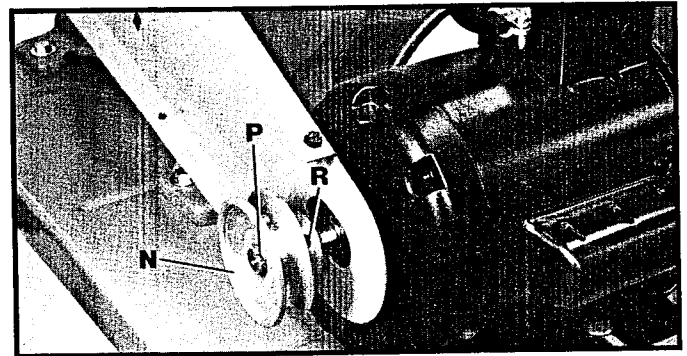

Fig.14
6. Assemble motor pulley (N) Fig. 14, to motor shaft with hub of pulley in the "in" position. Insert key (P) in keyway of motor shaft and tighten set screw (R) in motor pulley